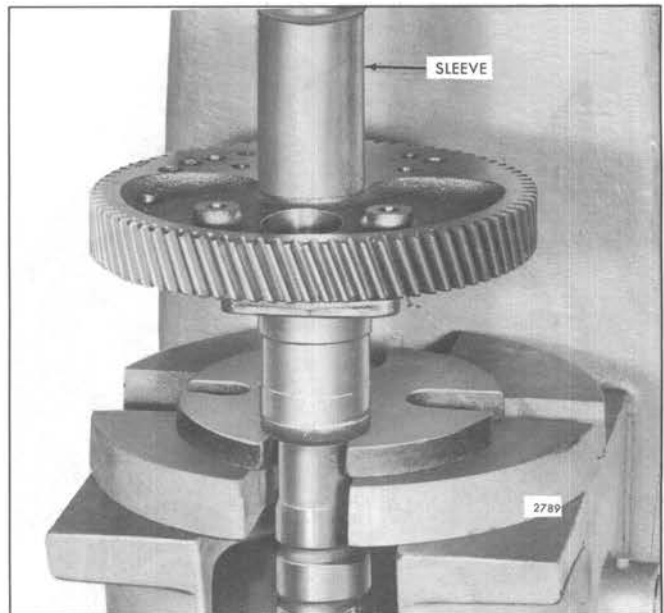

Fig. 5 – Installing Camshaft Gear
4. Then, with the camshaft supported in an arbor press, place a sleeve on top of the gear and press the gear tight against the shoulder on the shaft (Fig. 5).